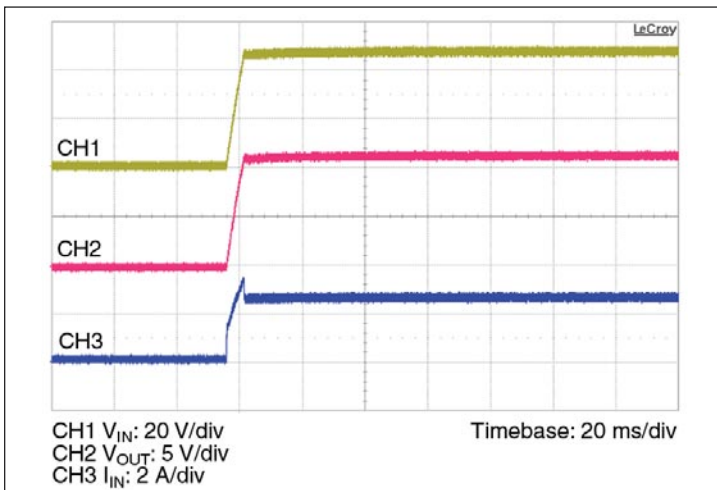

Figure 13 — Start up from application of V_{IN} ; VC pre-applied $C_{OUT} = 500\ \mu\text{F}$
- **Normal Operation (VC applied prior to V_{IN}):** In this case the controller is active prior to ramping the input. When the input voltage is applied, the VTM output voltage will track the input (See Figure 13). The inrush current is determined by the input voltage rate of rise and output capacitance. If the VC voltage is removed prior to the input reaching 26 V, the VTM module may shut down.